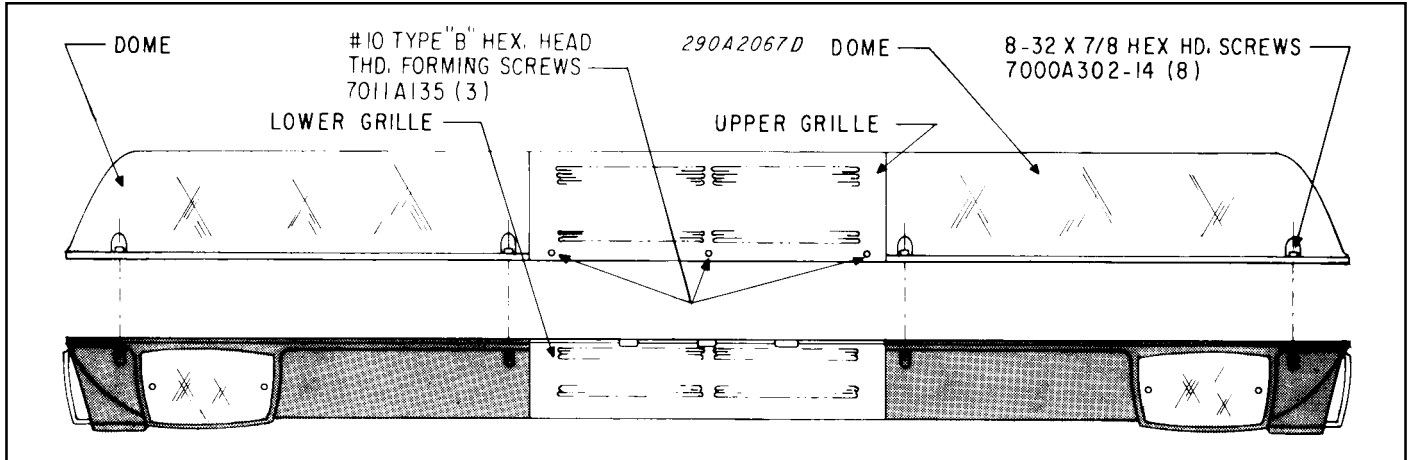
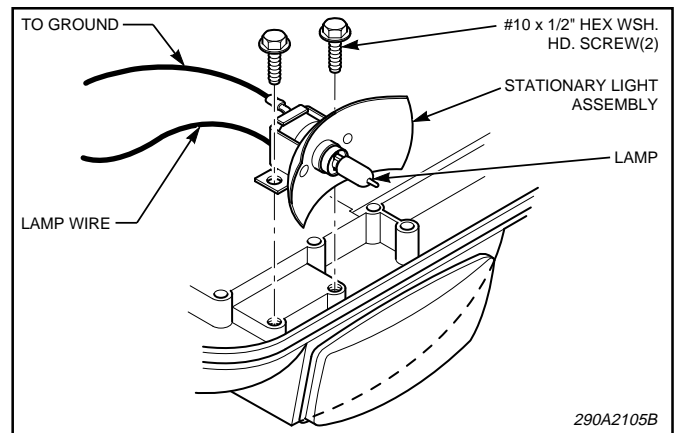

Figure 1.
Figure 2.
**A. DOME AND GRILLE REMOVAL (see figure 1).**
2. Remove three (3) #10 type "B" hex washer head thread-forming screws which secure the upper speaker grille to the lower speaker grille. Lift upper grille away from the lower grille.
**B. INSTALLATION OF STATIONARY LIGHT ASSEMBLY (see figure 2).**
1. Secure the stationary light assembly with two (2) #10 x 1/2 hex washer head screws (supplied).